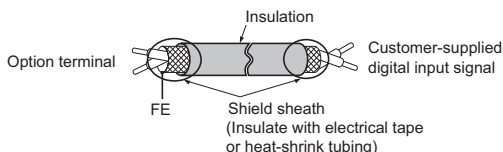

Figure 23 Prepare Ends of Shielded Cable
6. Prepare and connect the wire ends as shown in Figure 23 and Figure 24. Refer to Wire Gauges and Tightening Torques on page 39 to confirm that the proper tightening torque is applied to each terminal. Take particular precaution to ensure that each wire is properly connected and wire insulation is not accidentally pinched into electrical terminals.